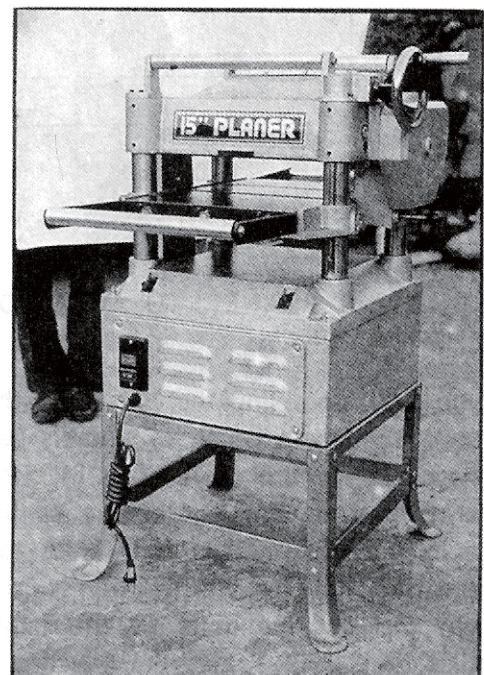
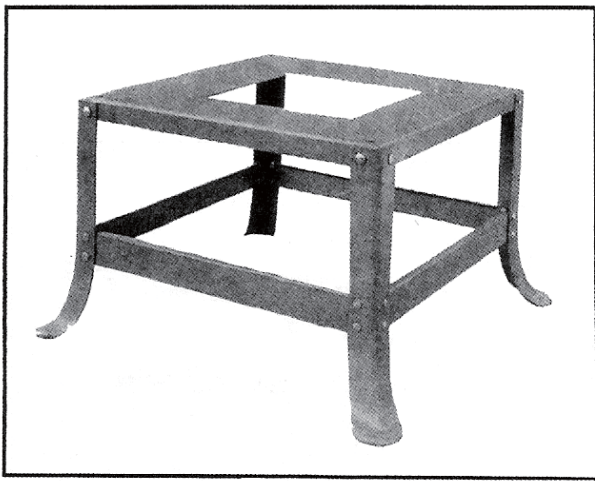

Fig. 3
Fig. 4
If the unit you have is too low in position, you may purchase assembling accessory No. 2 steel stand (as shown in Figure 4). The assembled set is as shown in Figure 3.
1. Assemble the stand as shown in Fig. 4, using the 24 screws and nuts supplied. Only tighten the screws and nuts finger tight at this time.